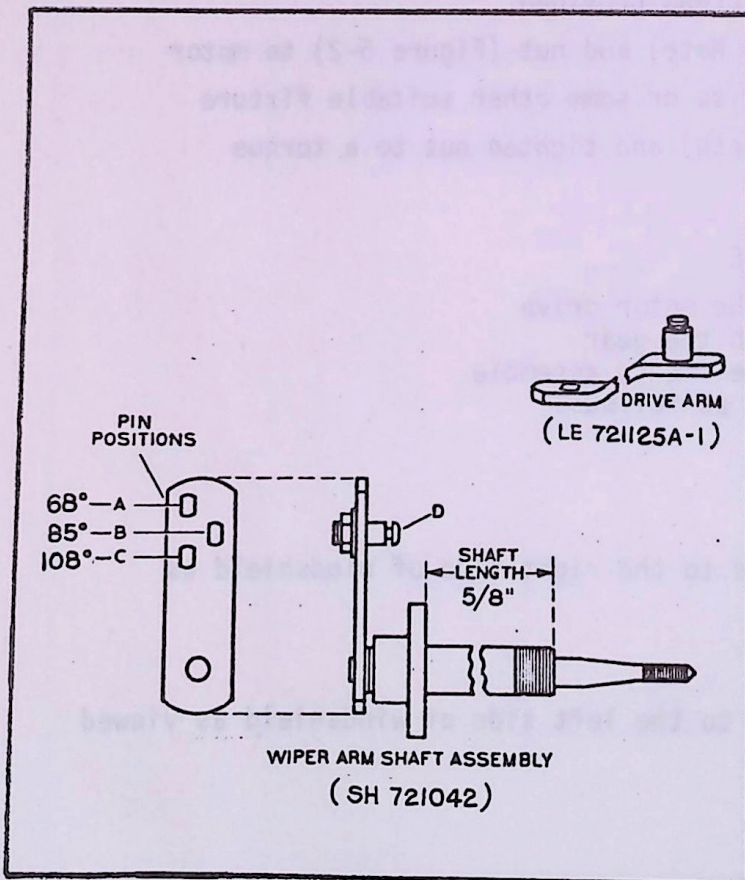

FIGURE 5-1
1. Pin "D" (Figure 5-1) to hole "B" in arm of wiper arm shaft assembly to obtain the desired wiping angle (85°).
- 5.4.2 Locate the approximate wiper arm shaft assembly position on the cowl or header and, with the use of the attached protractor scale, determine whether or not the desired windshield area will be wiped. If not, it will be necessary to relocate the windshield wiper mounting position. Should a change of wiping angle be required refer to Figure 5-1.